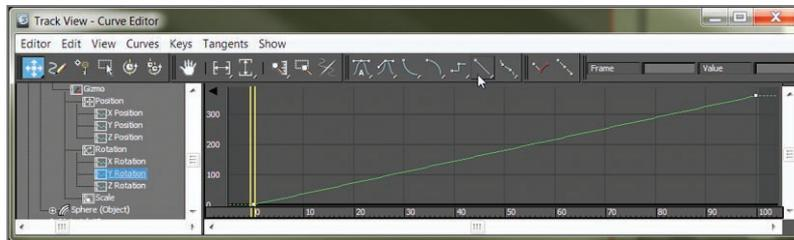

FIGURE 5.23 The Gizmo track's Y-axis rotation is selected in the Controller window and Linear tangents are set.
5. Select both keyframes and change the tangents to Linear (), as shown in Figure 5.23.